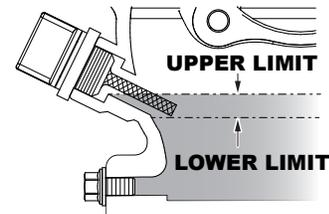

**Figure 7. Engine Oil Dipstick (Removal)**
2. Remove the filler dipstick from the engine oil filler hole (Figure 7) and wipe it clean.